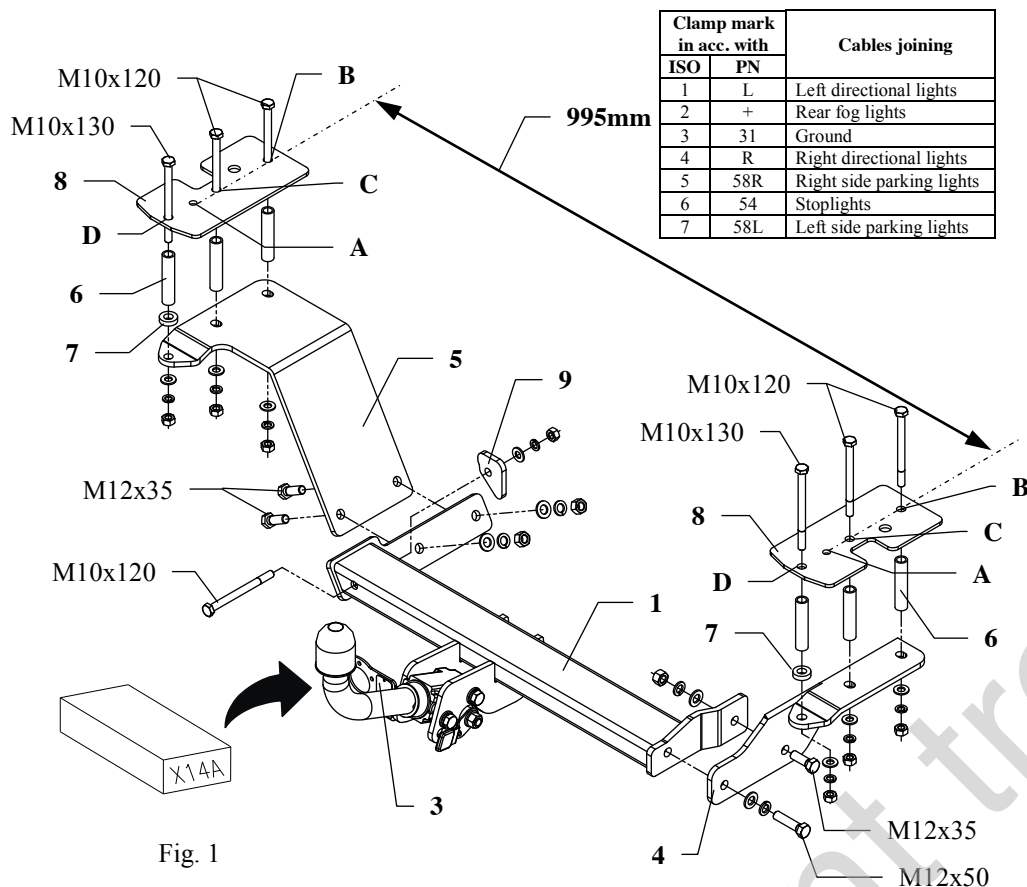
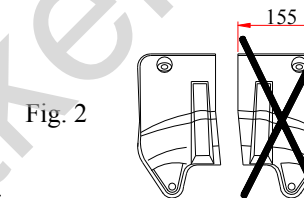

Fig. 1
Fig. 2
3. Fish-plates (pos. 8) put in this way so holes A agree with holes after luggage holders disassembly. Arrange fish-plates parallel with chassis lines and according dimension from figure 1. Next through holes B and C drill holes using bit $\phi 11\text{mm}$ and through holes D drill holes using bit $\phi 18\text{mm}$.
4. Through holes D put distance sleeves $\phi 17$ (pos. 6), put fish-plates pos.8 at the end put bolts M10x120mm (pos.13) and M10x130mm (pos. 12). See figure 1.
- on the left side – on protruding bolts put left bracket (pos. 5). Put distance sleeves pos. 6 before! Twist on..
- NOTE!** Use thick washer $\phi 25 \times 6\text{mm}$ (pos. 7) on hole D (see figure 1).
- on the right side – on protruding bolts put right bracket (pos. 4). Put distance sleeves pos. 6 before! Twist on loosely.
6. Between installed side brackets (pos. 4 and 5) put main bar of the towing hitch (pos. 1) and fix using bolts M10x120mm, M12x35mm and M12x50mm. See figure.
7. Reassemble thermal shield after cut out fragment according to figure 2.
9. Fix body of the automat and place tow-ball according to supplied instruction. Note! Remember to place socket plate (pos. 3) as shown on the drawing 1.